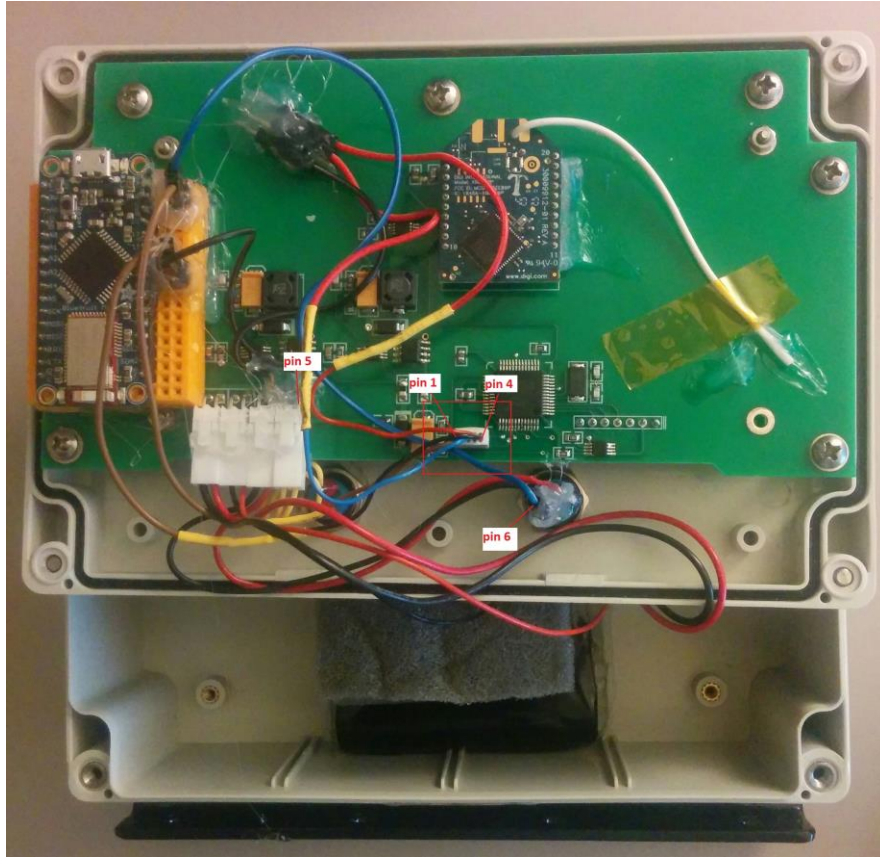

Figure 1
- On the board, locate the JST connector slot (red square in figure 1). Plug the Mini. JST SH 1.0mm 4-Pin Female Connector into that slot.
- Plug the Adafruit bluefruit LE Micro on the mini Breadboard. Attach the mini breadboard on the receiver main board (as shown in figure 1)
- Refer to figure 1 for soldering addition wire connections:
- Refer to figure 1 for pin number and connection, connect pins as follow: